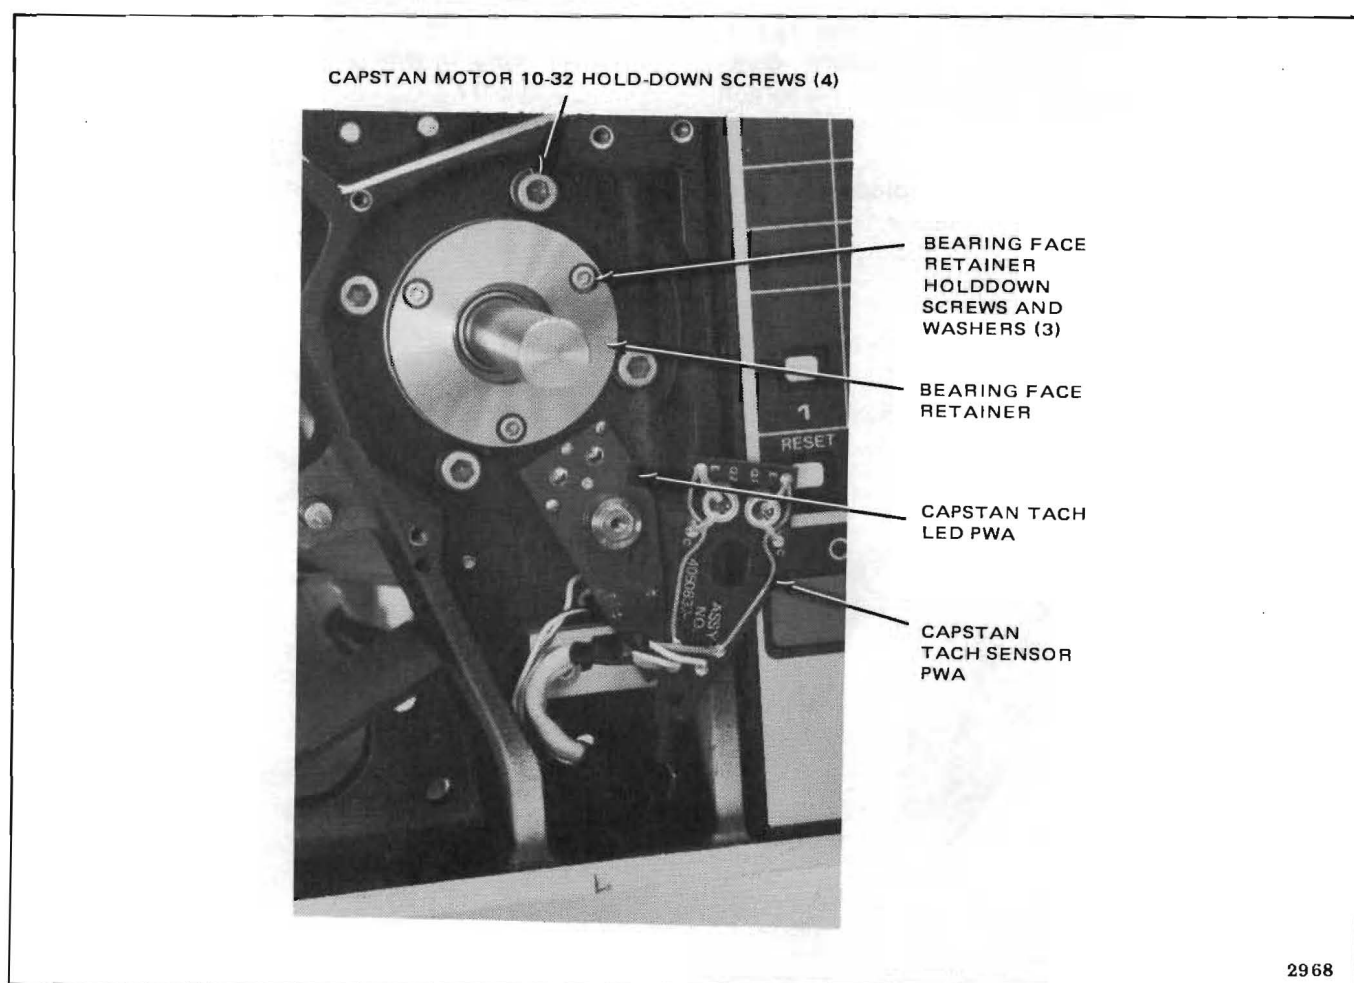

Figure 5-48. Capstan Motor Removal
4. Remove four capstan motor 10-32 holddown screws (Figure 5-48).
4. Remove bearing face retainer (three screws and washers shown in Figure 5-48).